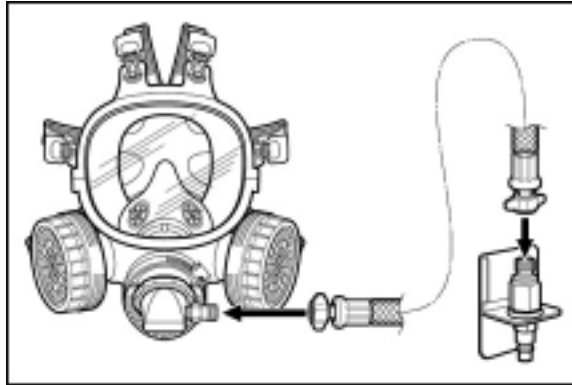

Fig. 10
2. Connect 3M™ Breathing Tube W-3188 to adapter. (Fig. 10)
3. Connect 3M™ Breathing Tube W-3188 to air regulator valve. (Fig. 10)